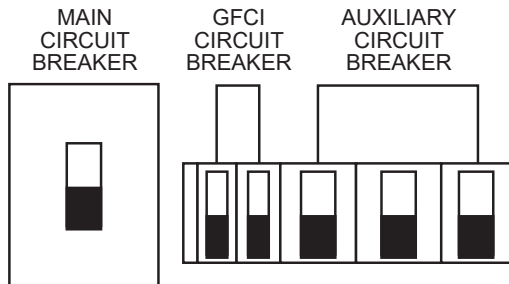

Figure 59. Main, Auxiliary, and GFCI Circuit Breakers (OFF Position)
2. Place the **main, auxiliary, and GFCI circuit breakers** in the **OFF** position (Figure 59).
2. Place the **main, auxiliary, and GFCI circuit breakers** in the **OFF** position as shown in Figure 59.